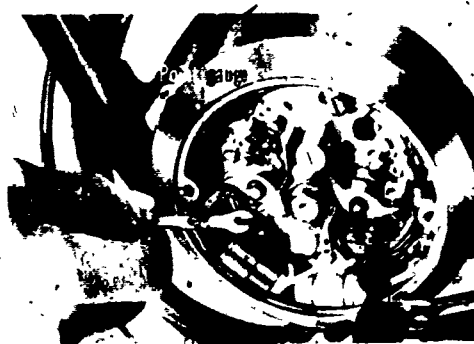

FIGURE 1
- D. Adjust the point gap according to service manual specifications for your motorcycle make and model (Figure 1)